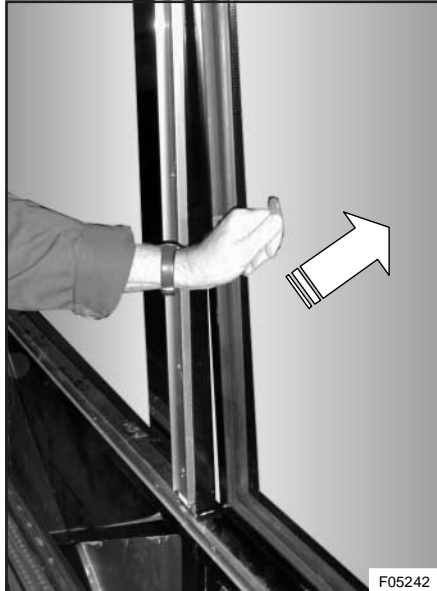

Figure 14 : Checking window operation
1. From inside the coach, pull down the emergency release handle (see Figure 14). Maximum allowable force required : 20 lbf (9 kg).